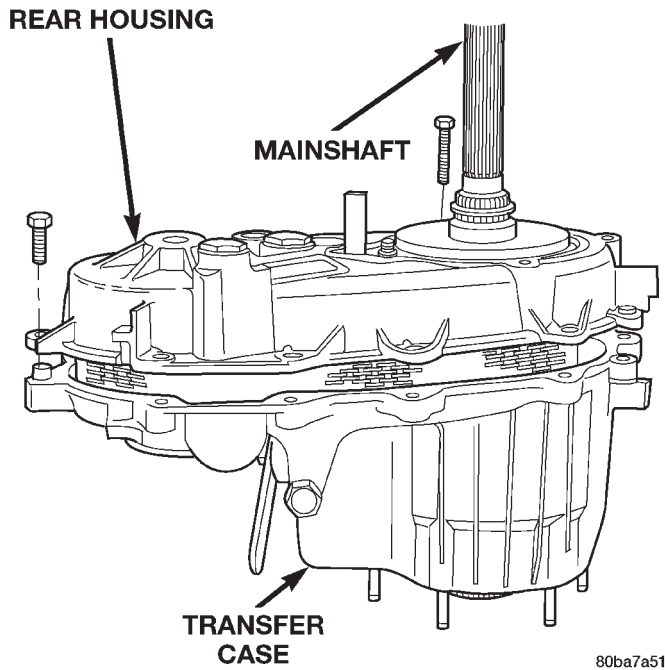

Fig. 24 Rear Case Removal
- (4) Remove rear case (Fig. 24).